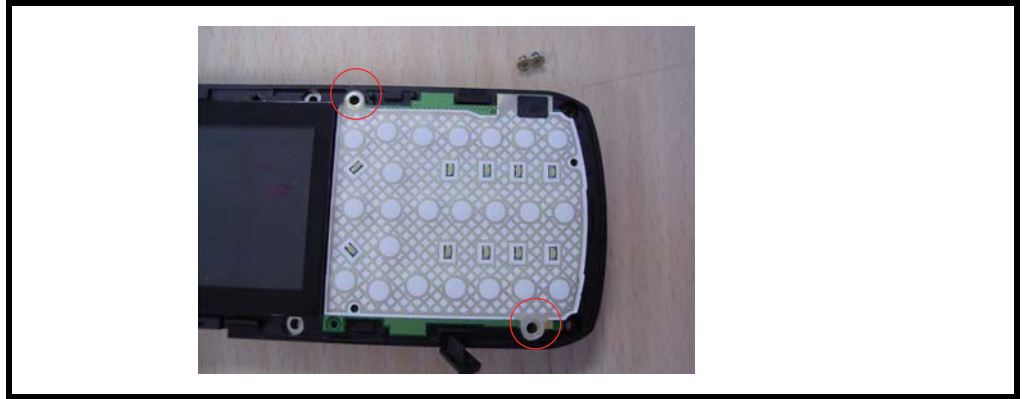

Figure 9. Removing Keypad from Side Band
2. Remove the 2 PH10 screws with screwdriver as shown in Figure 9.